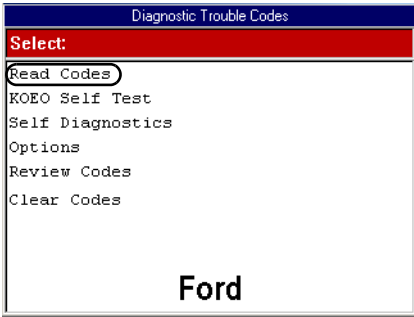

Figure 3.25: Ford Diagnostic Trouble Codes Screen
- 1 Follow the steps in “Basic Procedure” on page 23 to display the Diagnostic Trouble Codes screen (Figure 3.25).